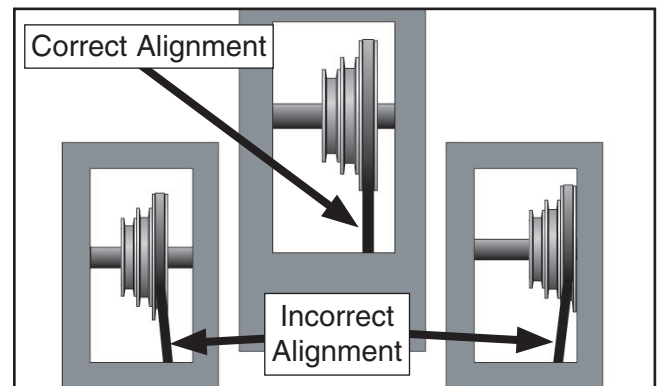

Figure 53. Proper belt alignment.
5. Adjust the spindle pulley position on the spindle shaft to ensure proper belt alignment (**Figure 53**), then tighten the pulley set screw.